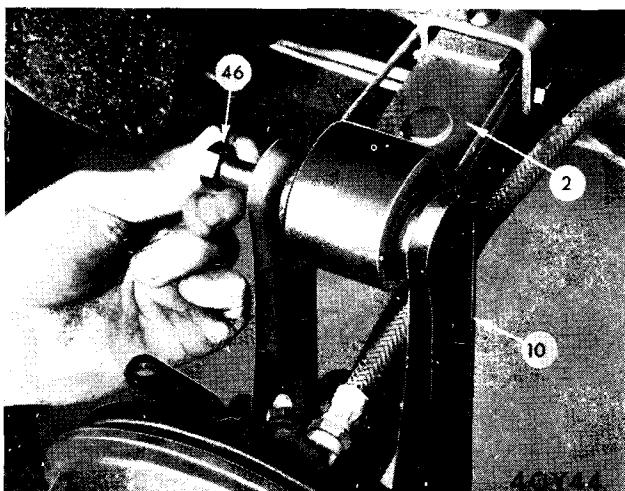

Fig. 25. Removing spring eye bolt
5. Supporting the vertical link (10), remove the bolt (46) from the road spring eye as shown on Fig. 25.
3. Remove the damper (9), lower and remove the jack.
4. Supporting the brake assembly, remove the bolt (46) from the road spring eye Fig. 25 and place the brake/axle shaft assembly on a clean bench.